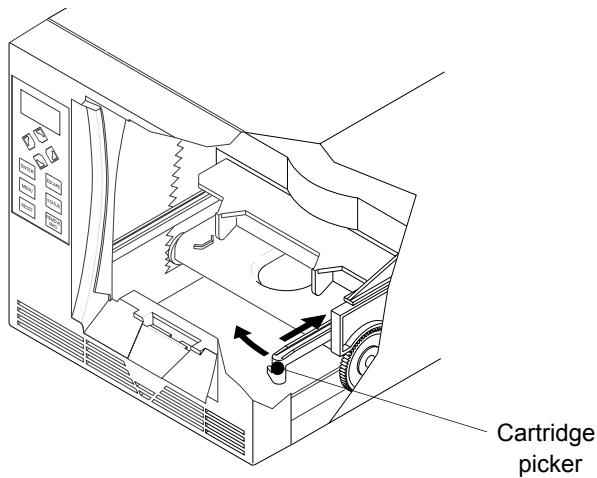

Figure 7-2 Positioning the picker for shipping
a. Push the picker toward the back of the autoloader until it stops (see Figure 7-2).